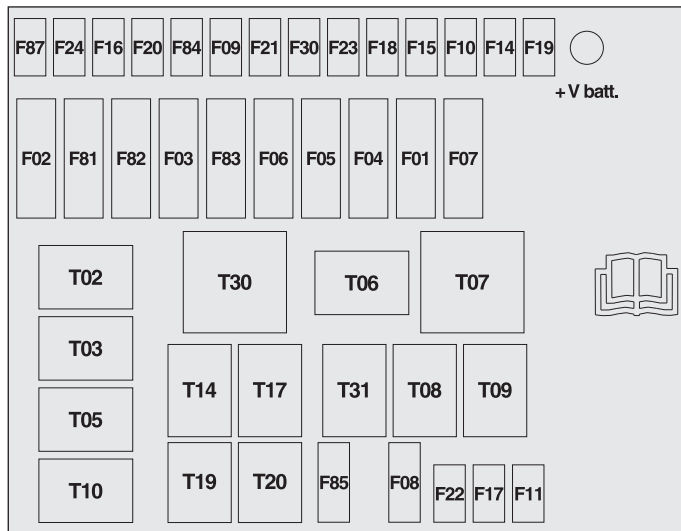

fig. 35
**Engine compartment unit – fig. 35**